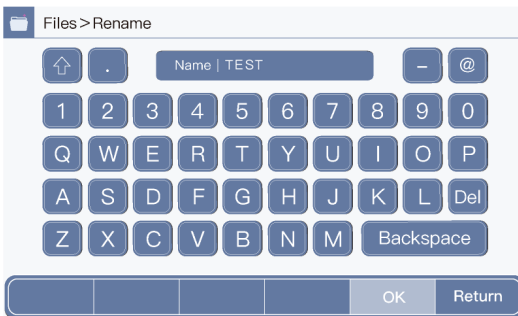

Fig 5-1. File Name Input Screen
3. After entering the filename in <Name> as shown in Figure 5-1, select <Ok> to return to the File Library screen.